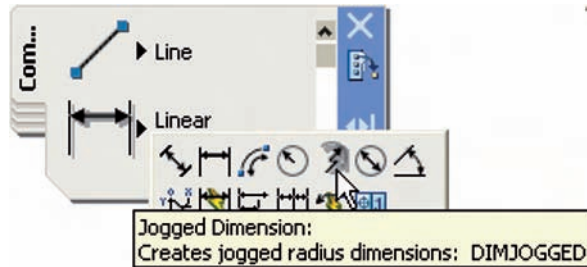

Fig. 6.20 The **Jogged** tool icon
2. Call the **Jogged** tool – either with a *left-click* on its tool icon (Fig. 6.20), or with a *click* on **Jogged** in the **DIMENSION** toolbar, or by *entering jog* at the command line. The command line shows: